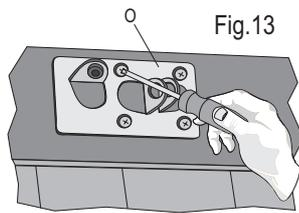

Fig.13
11 - Fix the door stirrup (O) in the center and on the top of the door with four appropriate screws (fig.13).